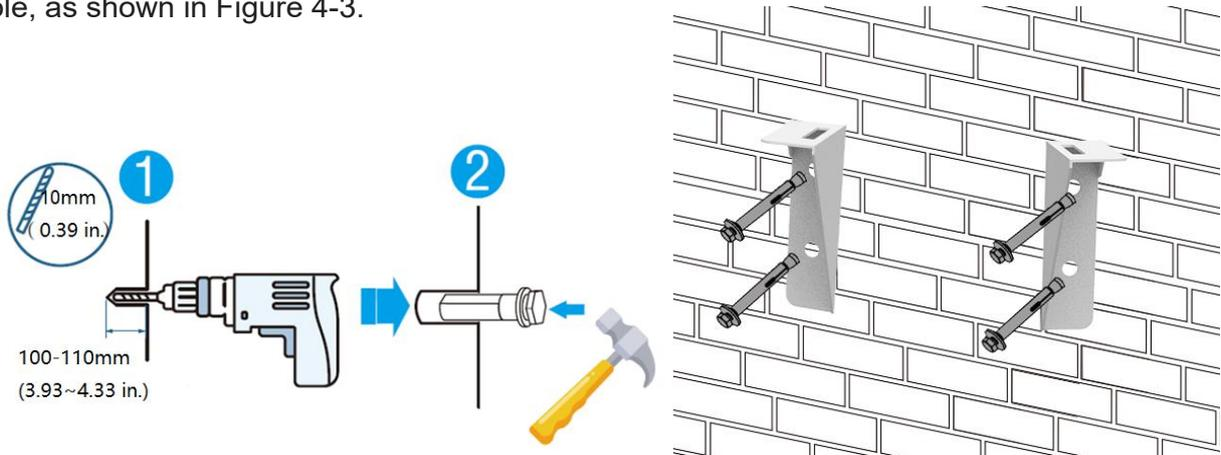

Figure 4-3
g) Choose the recommend drill head (as shown in Figure 4-3) to drill 4 holes on the wall,100mm-110mm deep.
h) Use a hammer to secure the support to the wall,and install the expansion bolt in the hole, as shown in Figure 4-3.